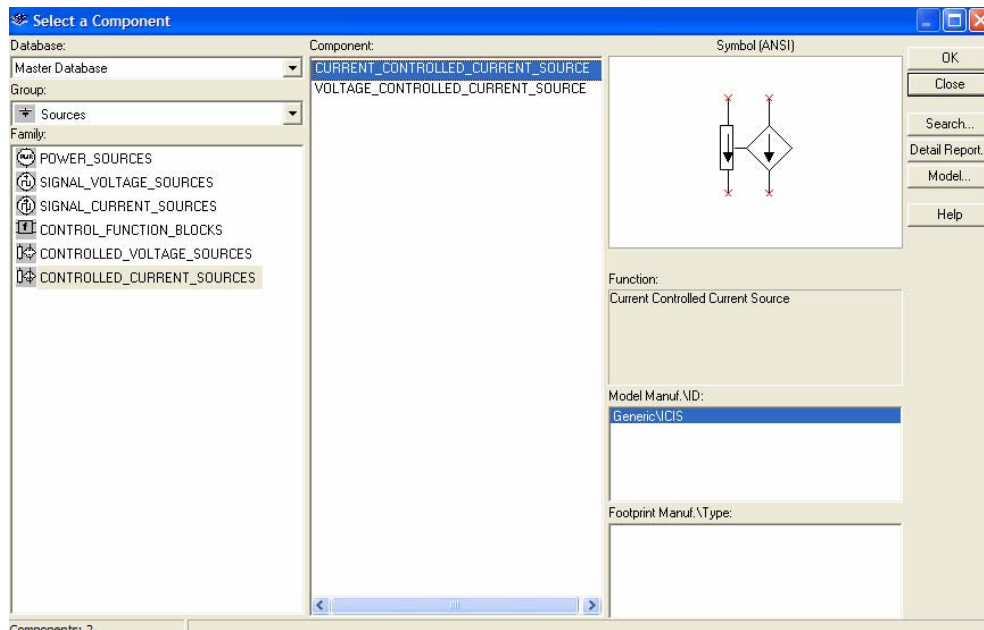

Figure 28. Dependent sources in MultiSim
2. Left-Click on **Place** and choose **Component...**. The Select a Component window pops up as shown in Figure 28.
Dependent sources can be found under the **CONTROLLED_VOLTAGE_SOURCES** and **CONTROLLED_CURRENT_SOURCES** in the Sources Component Group under the Master Database. Choose the correct source as shown in figure 28. Left-click the OK button to place the source in the workspace.